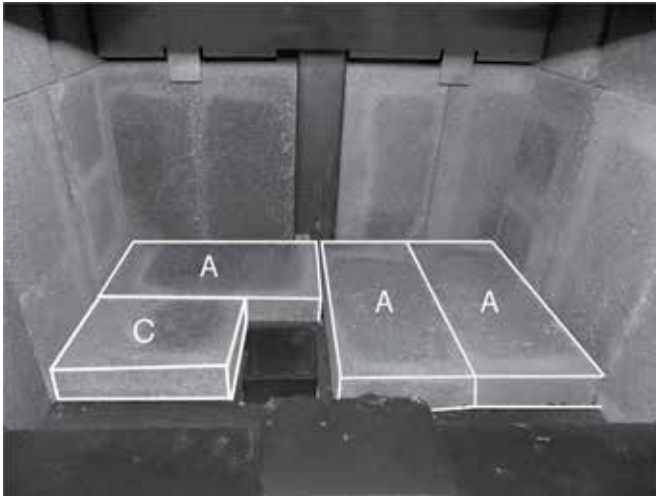

Figure 25: Floor bricks in place.
5. Place two "A" firebricks on the firebox floor as shown. Place a third "A" firebrick against the rear wall as shown in (Figure 25).
6. Place the "C" firebrick so that it sits beside the ash dump, against the left-hand side wall and the "A" firebrick located directly behind the ash dump (Figure 25).